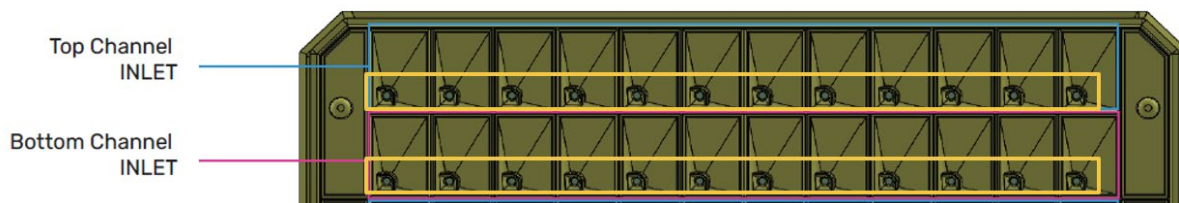

Figure 17. Location of reservoir vias.
- b. See Figure 17 for locations of reservoir vias.